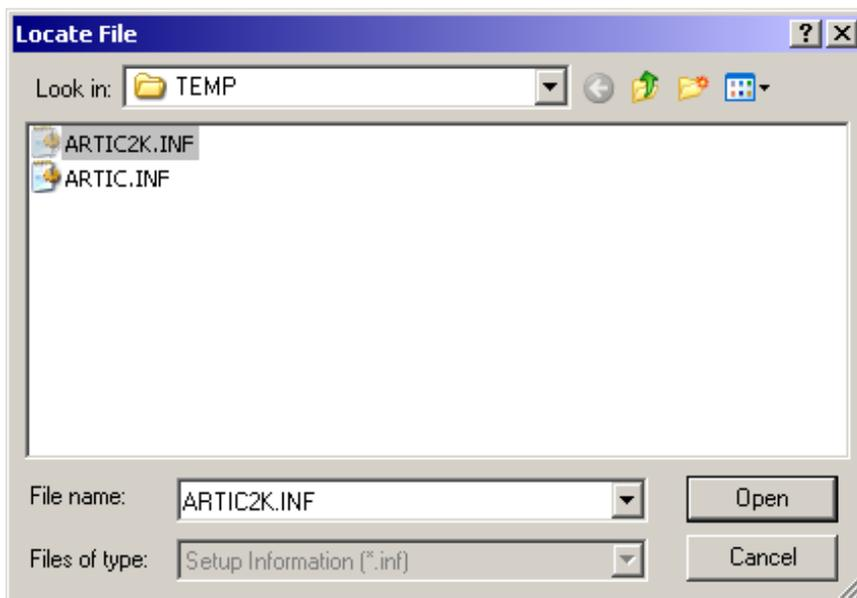

FIGURE 198. Locate File window
22. Select the ARTIC2K.INF file as seen in Figure 198.